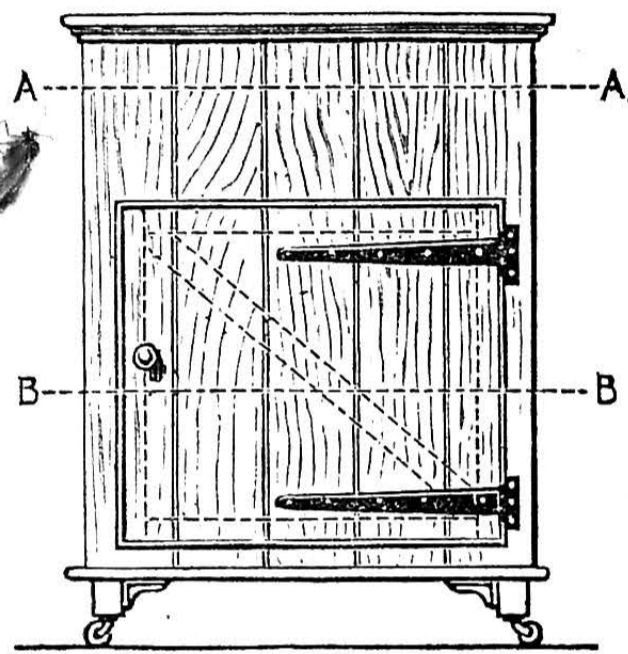
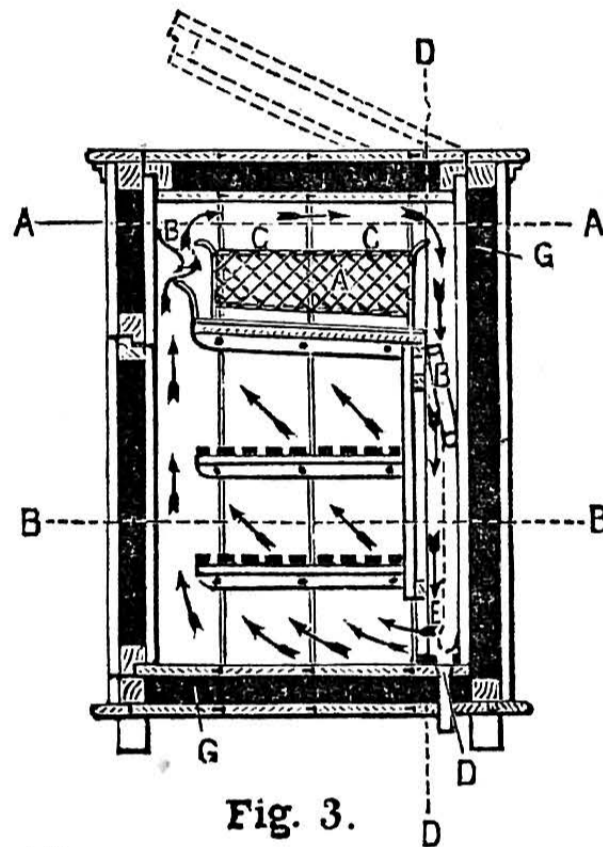
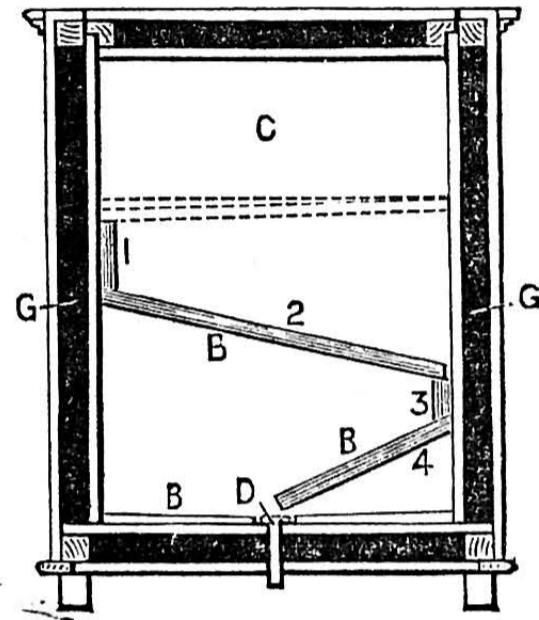
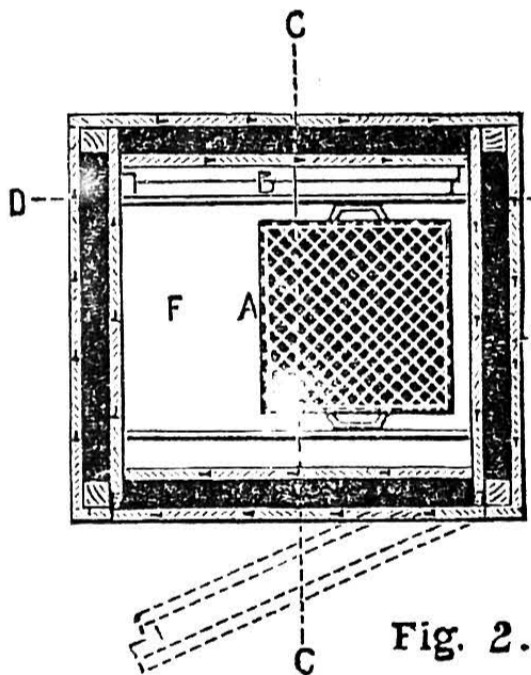

Fig. 1.
Fig. 3.
Fig. 6.
Fig. 2.
*Description.*—Fig. 1 is a front elevation. Fig. 2, sectional plan through A A, showing the method of construction, with the ice basket, A, gutters, B, and the zinc-lined shelf on which the ice basket stands. Fig. 3, sectional elevation through C C, showing the circulation of the air in the direction of the arrows. The air in the ice chamber in contact with the cold zinc and ice falls to the bottom, as shown by the arrows, condensing in the ice chamber, which condensation is caught by the drip, shelf, and gutters, and so conducted to the trap, D, and then falls into a receptacle placed for it on the floor under the trap. The cold air, in passing down the trough or space between the false back and the outside, is kept cold by the ice water and condensation continually running along the gutters, and enters the food cupboard at the bottom, passes through the cupboard and around all its contents, and rises to take the place of colder air in the ice chamber; and so on continually, as long as the door of the refrigerator is shut and the ice lasts, it being a well-known fact that cold descends and warmth ascends. Fig. 4, sectional plan, showing slatted shelving and method of constructing door. Fig. 5, perspective view of framework, on which matchlining is nailed. Fig. 6, sectional elevation, through D D, of inside of back, showing direction of gutters.
In order to make the refrigerator as cheap and simple in construction as possible, I do not cover the inside with zinc at all, except the shelf on which the ice cage, A (Figs. 2 and 3), stands, and the little gutters and drips, B B (Figs. 2, 3, 4, and 6). It would certainly be better to cover the underside of the lid—in fact, the whole of the condensing or ice chamber—with zinc; but if the woodwork is well varnished and the gutters and drips screwed tightly to it with brass screws, it is hardly necessary; but on no account should the food cupboard be lined with zinc, because of the condensation of the warm air on the cold metallic surface of zinc rendering the cupboard damp, etc., and this is what it is so necessary to avoid. In a great many refrigerators this zinc lining is simply nailed on to the battens, with very little, if any, space between the
bottom rails first, keeping the front to the centre of the front rail to form stop to door (Fig. 3). On the bottom, between the uprights, battens should be nailed to receive the ends of sides.
Now screw the bearers on to receive the solid shelf (Fig. 3), and the battens to receive the false back. Fit in the solid shelf, allowing it 3 in. narrow, back and front, for circulation of air. This shelf can also be made of  $\frac{3}{4}$  in. yellow matchlining. Make the false back, with battens behind, and fit it into its place, allowing about  $3\frac{1}{2}$  in. space at the bottom for galvanised iron grating. By keeping the bottom batten  $\frac{1}{2}$  in. below the bottom edge of the matchlined false back, it will form a rebate for the grating later on.
The false back should now be stood on one side, and if it is intended to line the back and sides of air-shaft with zinc, you should now do so. Put sloping pieces of wood on the bottom to form drip to lead water into the trap at D (Figs. 3, 4, and 6); these sloping pieces should be lined with zinc and connected to trap (an ordinary small brass bell trap will do), and turned up 3 in. at the back and two ends (the front need only be turned up about  $\frac{1}{2}$  in.), and the thickness of these drips form the bottom rebate for the iron grating. Next line the shelf with zinc, and secure a small piece of zinc guttering on the back edge of the shelf, giving it a slight fall from right to left for the shelf to drain into; turn the zinc of the shelf up 3 in. all round, except the back edge that drains into the gutter. The two sides of the ice chamber, if decided to be covered with
**Ice Chest or Refrigerator.** Fig. 1.—Elevation. Fig. 2.—Plan, A A. Fig. 3.—Section, C C. Fig. 4.—Plan, B B. Fig. 5.—Framework. Fig. 6.—Section, D D. A, Ice Basket; B, Gutters, Drips, etc.; C, Ice or Condensing Chamber; D, Trap to prevent Air getting into Cold Air Trough or Flue and so spoiling Circulation; E, Galvanised Iron Grating to prevent Plates being pushed into Cold Air Flue; F, Space for Water-Cooler, etc.; G, Slag Wool, Charcoal, or other non-conducting Packing.
*Making.*—First make the framework as shown (Fig. 5), with 2 in. by 2 in. yellow; this need not be planed, and, as the construction of all these and other various joints have been described so often, I will not stop to describe them. They, of course, would be better properly framed, or mortised and tenoned, but if they are *halved* they will serve every purpose, as the matchlining holds everything together. The inside should next be lined with  $\frac{3}{4}$  in. yellow matchlining, letting the end boards of the sides run by the uprights, and nailed to them, cutting the boards that form the door-stops to the centre of the front uprights. The tops of the boards for the sides should be cut nice and square, and finish exactly in the centre of the top rail of the frame (Figs. 3 and 6).
zinc, should have the zinc closely screwed to them along the top edge; if you decide not to line the chamber with zinc, closely screw the turned-up edges of the shelf lining to the sides. The drip, B (Fig. 3), should be screwed along the top edge, and then bent so as to deliver over the back turned-up edge of the shelf, but about 3 in. above it. The small guttering—which, by the way, can be bought at any zinc-worker's—should now be screwed or soldered on to the ends and back as shown at Fig. 6—the short piece, marked 1, arranged with a stop-end on the right-hand end to take the water from the gutter running along the edge of shelf, and delivering into the stopped end of that marked 2, which in its turn delivers into the stopped end of No. 3, and No. 3 into No. 4, and No. 4 into the trap. It might be advantageous, and pay in the long run, to take the carcass in its present state—that is, when it is ready for the zinc—to a zinc-worker's, and get him to do the lining and fixing of the
The galvanised iron grating, or a piece of perforated zinc, may now be secured under the false back, as shown at E (Fig. 3). Now screw on the bearers for the slatted shelves; these shelves are so simple that I shall not attempt to describe them.